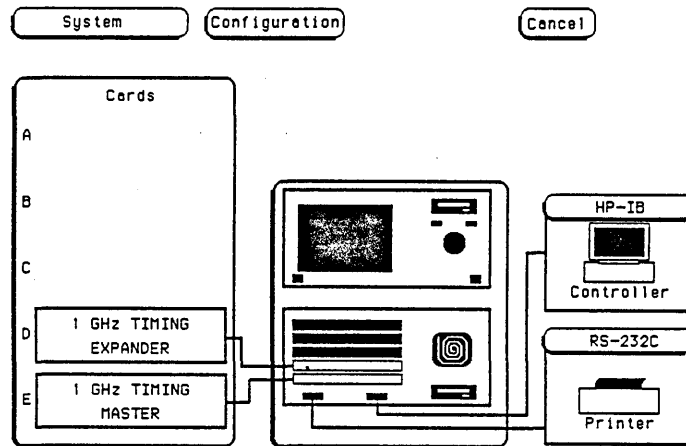

Figure 6-4. Startup Screen
2. From the startup screen shown in figure 6-4, touch **Configuration** field, then touch **Test**.